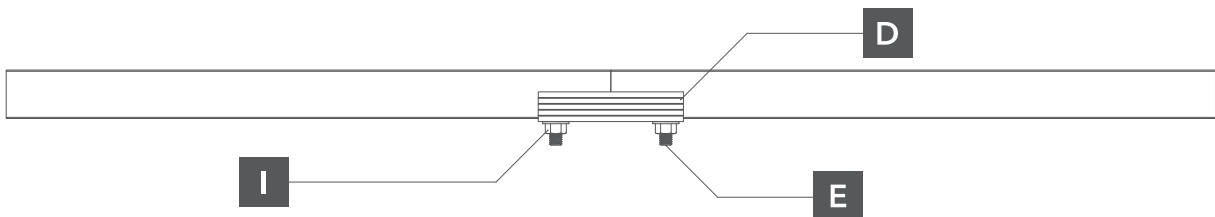

Fig. 5. connection of the mounting rails
- 4** If a system with several rows is ordered, the mounting rails may have different lengths. They must be joined together using a rail connector (Fig. 5).